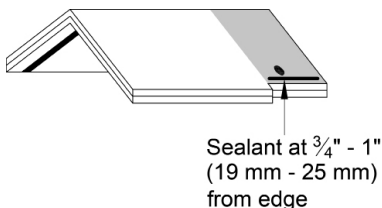

Figure 4
9. In order to obtain the maximum wind speed coverage under GAF Limited Warranties... you **MUST** apply a $\frac{1}{4}$ " (6 mm) wide bead of Henkel PL® Urethane Sealant or Soneborne® NP-1™ Urethane Sealant to each Ridge Cap Shingle $\frac{3}{4}$ "-1" (19-25 mm) from the shingle edge, parallel to the ridge (see Figure 4) before setting the next shingle in place.